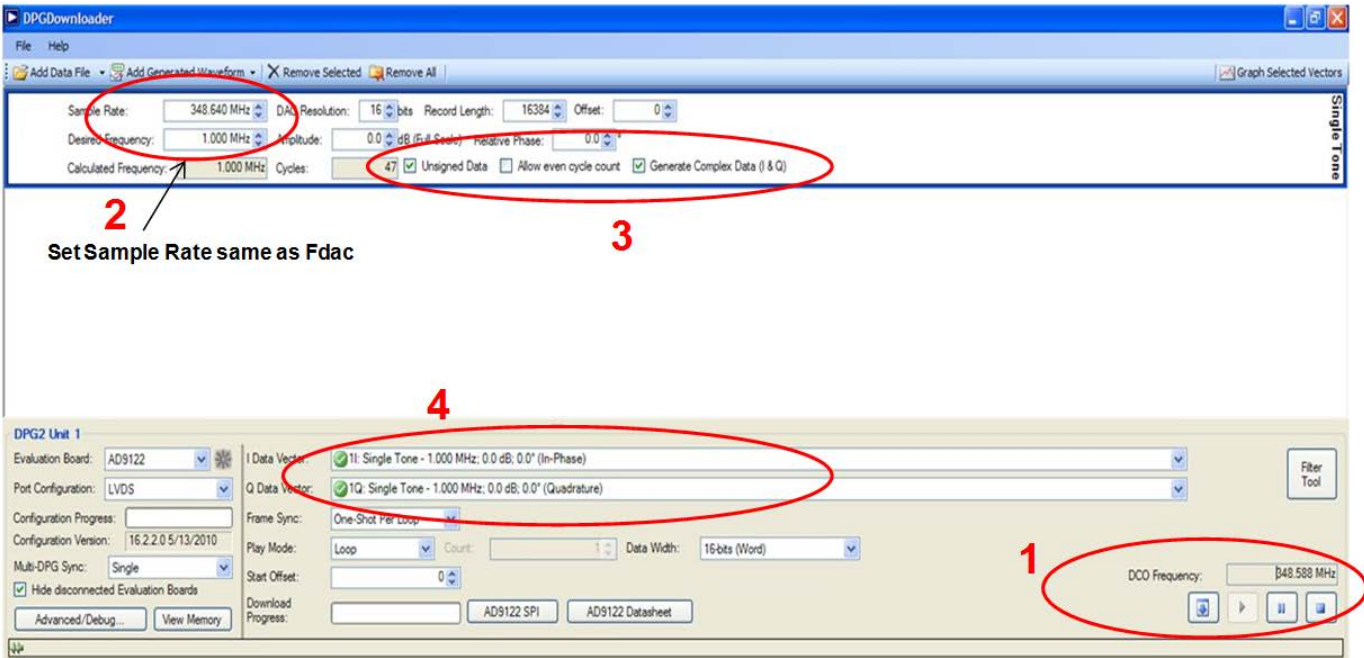

Figure 18. Setting up the DPG Using the DPG Downloader Software
- Make sure DCO frequency ("1" in Figure 18) is close to F_{DAC} frequency.
- Set sample rate ("2" in Figure 18) same as F_{DAC} frequency and 1 MHz at desired frequency.
- Set "3" and "4" as shown in Figure 18.
- Download I and Q vector by clicking buttons at "1" in Figure 18.
8. Change frequency of signal generator for F_{DAC} , change "Data Rate" mentioned in (5), and "Sample Rate" mentioned in (6)
10. Repeat (8), (9)